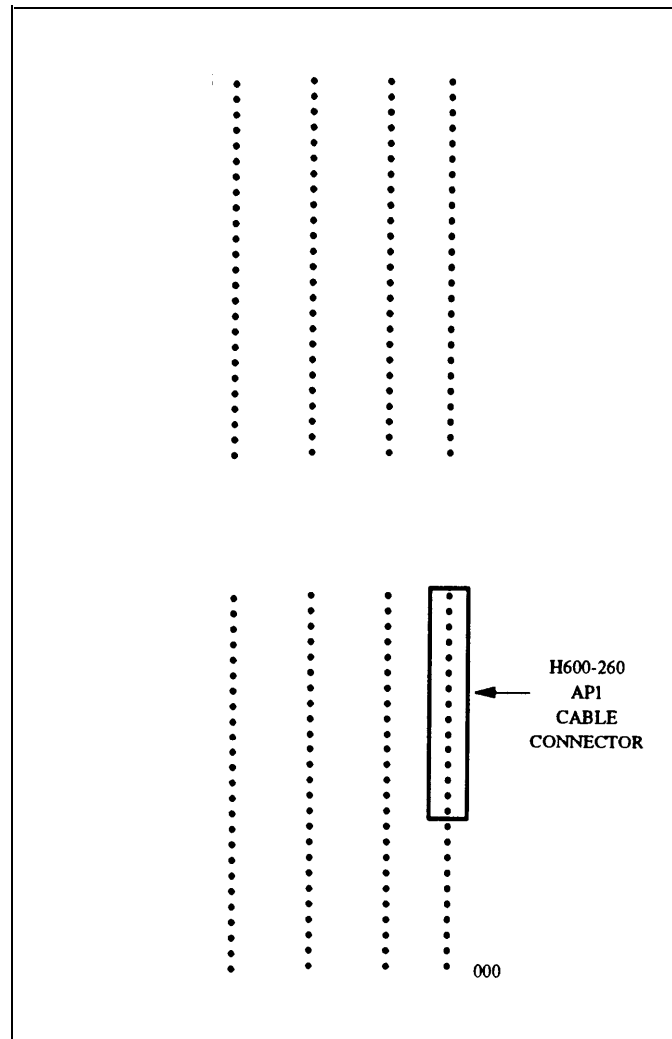

Figure 30-84. H-600-260 Cable Attachment to Backplane
- a. Attach the AP1 connector on the H-600-260 cable to slot 02 (pins 010 through 024) on the rear of the backplane in the module control carrier(s). See Figure 30-84 for pin locations.
- a. Attach the AP1 connector on the H-600-260 cable to slot 20 (pins 010 through 024) on the rear of the backplane in the TMS carrier(s). (See Figure 30-84 for pin locations.)